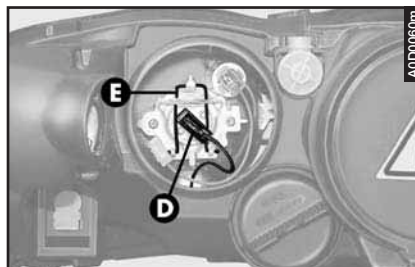

fig. 30
– Disconnect the snap-fitted connector (**D-fig. 30**) and release clip (**E**).